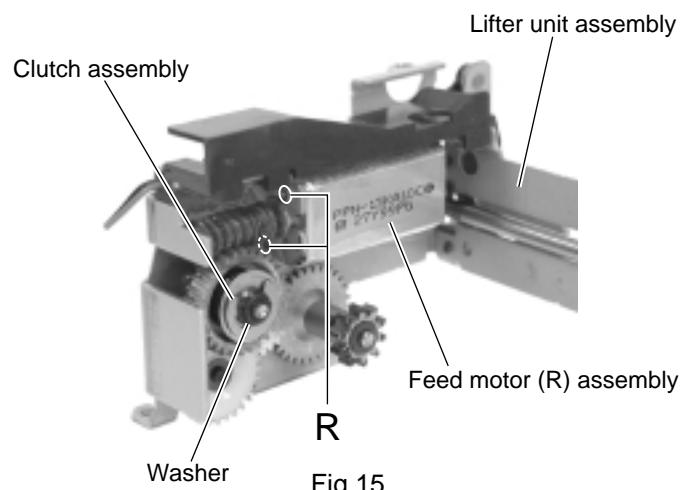

Fig.15
■ Removing the feed motor (R) (See Fig.15)
- Remove the two screws **R** attaching the feed motor (R).